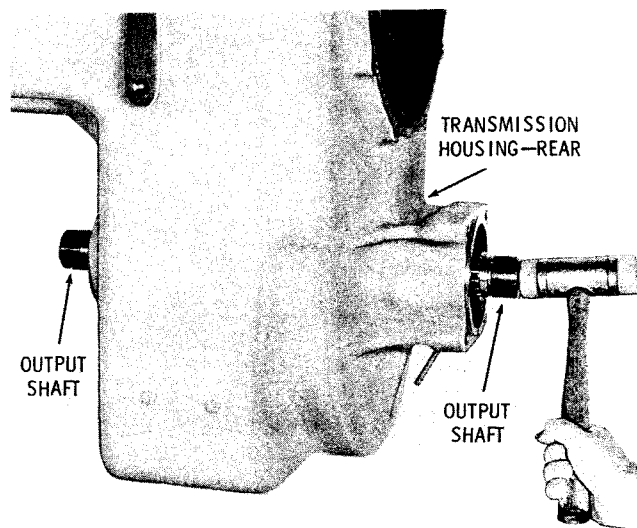

Fig. 5-36. Loosening one-piece shaft
(3) Using a soft hammer, drive the output shaft forward until the front bearing is free of the housing (fig. 5-36). Remove the output shaft and bearing as an as-